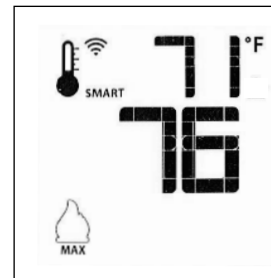

Fig. 14.13. Smart Mode
- To activate this function, press the Thermostat Key until the word “SMART” appears to the right of the thermometer bulb icon. Fig. 14.13.